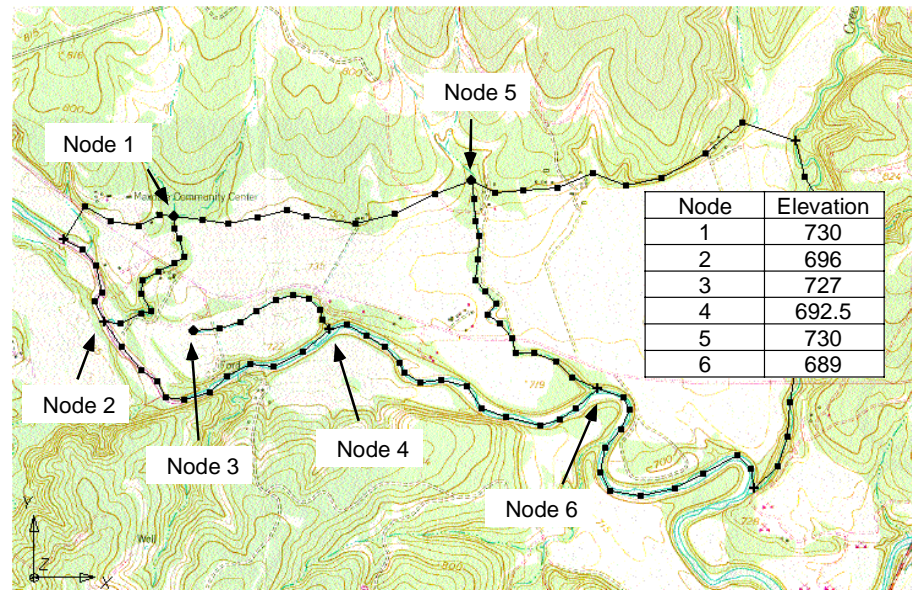

Figure 7.6 Elevations for Drain Nodes.
2. Double click on each of the nodes at the end points of the arcs and assign the elevations as shown in Figure 7.6.